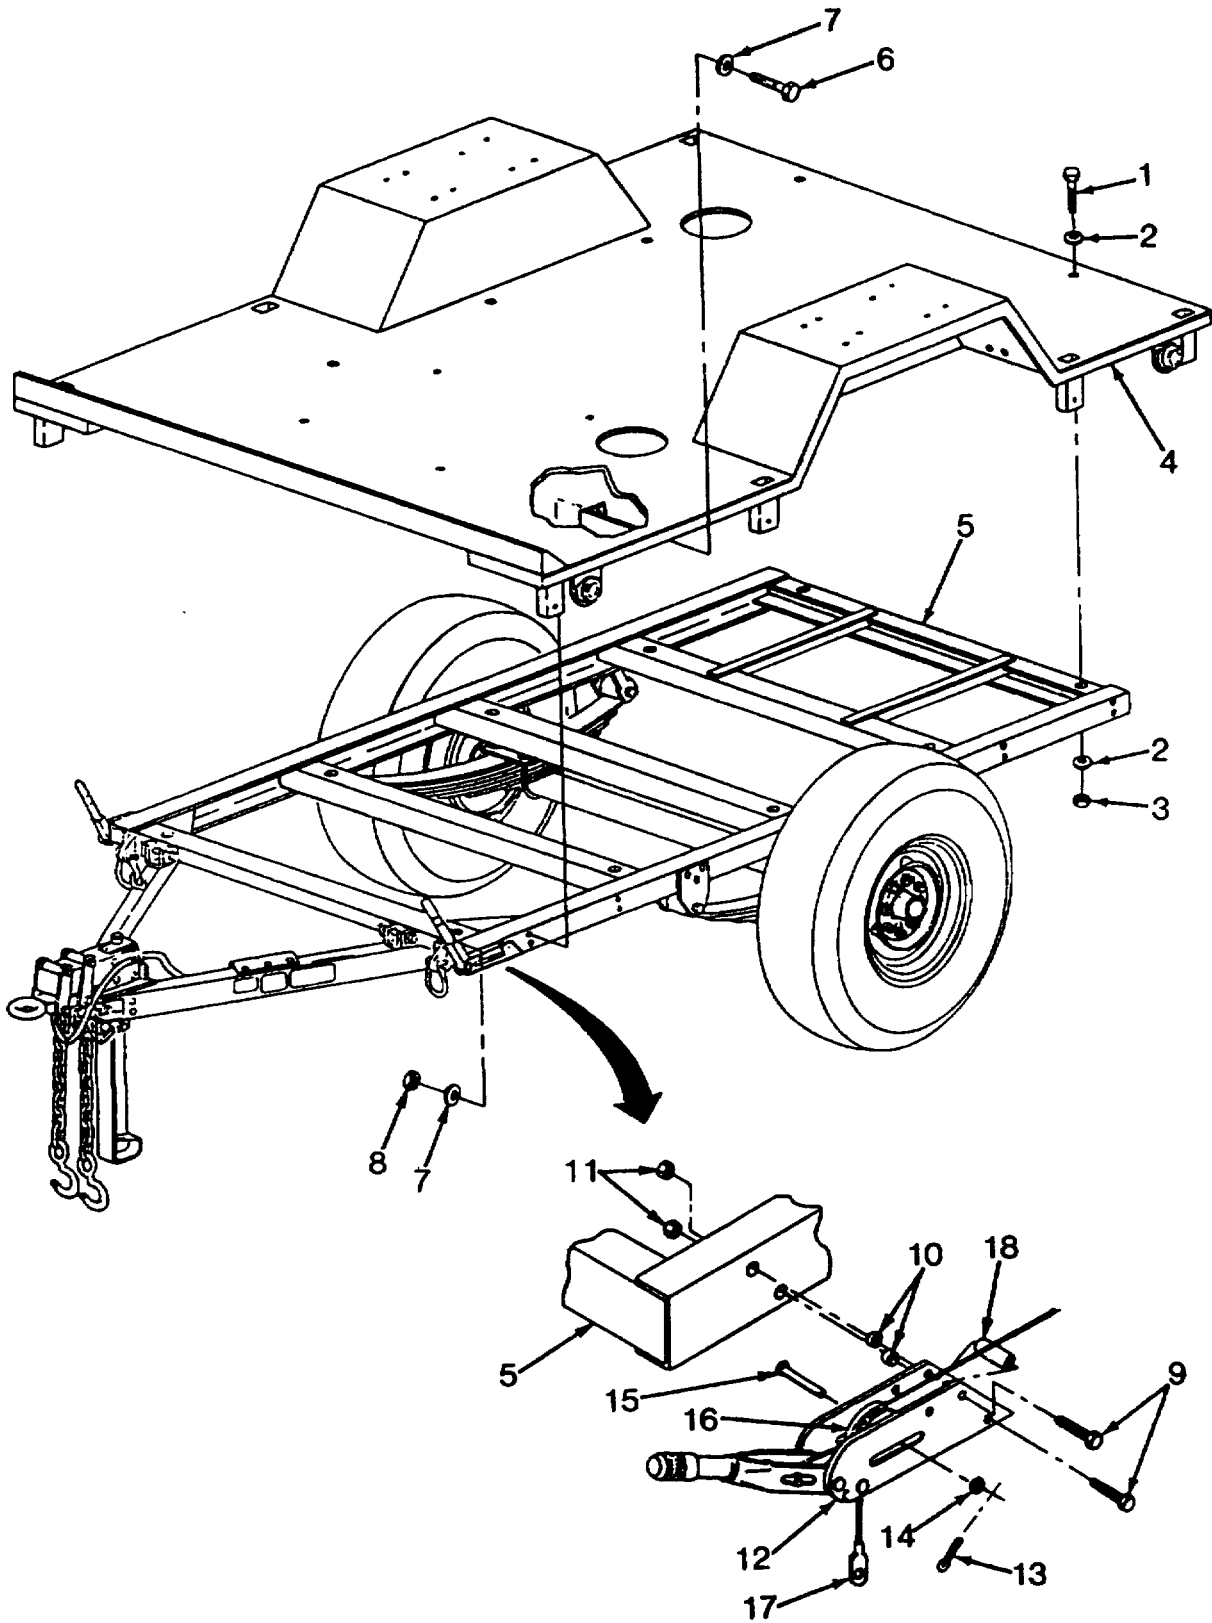

Figure 5-6. Fender and Bed Replacement on AN/MJQ-33.
a. **Removal.** (See figure 5-6). The body of the modified AN/MJQ-33 trailer consists of a single weldment that includes both fender and the bed of the trailer.
- (1) Remove tarpaulin (paragraph 3-6a(1)).
- (2) Remove tarpaulin support and bow assembly (paragraph 3-6b(1)).
- (3) Remove accessory box (paragraph 4-25a).
- (4) Remove switchbox (paragraph 4-19c(1)).
- (5) Remove generator sets (paragraph 5-5a).
- (6) Remove 10 screws (1, figure 5-6), 20 flat washers (2), and 10 nuts (3) securing trailer body (4) to trailer chassis (5).
- (7) Remove 16 screws (6), 32 flat washers (7), and 16 nuts (8) securing trailer body (4) to trailer chassis (5).
- (1) Using suitable lifting equipment with a minimum lifting capacity of 500 lb, lift trailer body (4, figure 5-6) on trailer chassis (5) and align mounting holes.
- (2) Insert 10 screws (1) with flat washers (2) through trailer bed and through trailer chassis frame rails.
- (3) Working under trailer, install one flat washer (2) and nut (3) on each screw (1).
- (4) Insert 16 screws (6) with flat washers (7) through trailer body braces into trailer chassis.
- (5) Working under trailer, install one flat washer (7) and nut (8) on each screw (6). Tighten hardware to secure trailer body to trailer chassis.
- (6) Feed roadside handbrake cable clevis (17) forward through holes in front two braces on trailer body.
- (7) Wrap handbrake cable around pulley (16), position pulley in handbrake lever assembly (12) and insert shaft (15).
- (8) Install washer (14) and cotter pin (13) to secure shaft (15).
- (9) Assemble handbrake lever assembly (12) using two screws (9) and spacers (10). Make certain top screw (9) goes through spacer (18) and bottom screw (9) goes through handbrake cable clevis.
- (10) Position assembled handbrake lever assembly (12) on trailer chassis (5) and install two nuts (11). Tighten hardware.
- (11) Repeat steps (6) thru (10) to assemble and install curbside handbrake lever assembly.